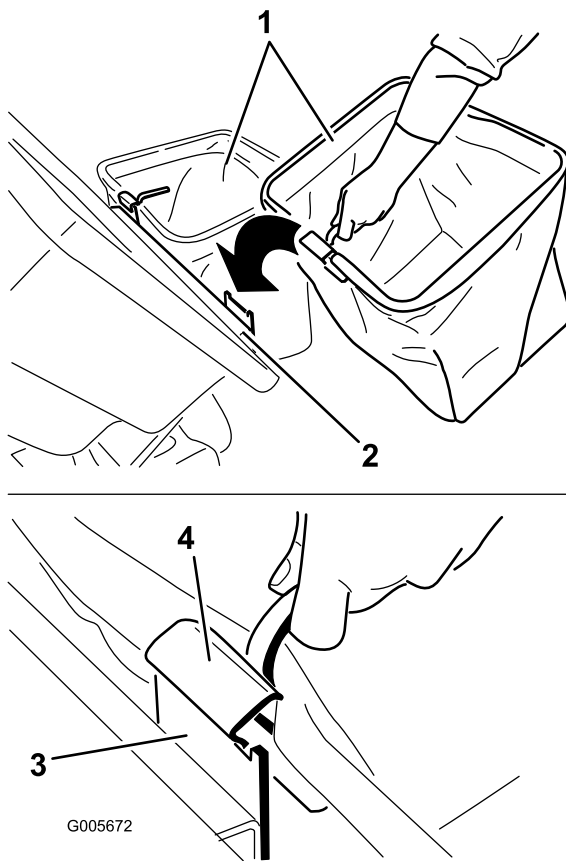

Figure 13
5. Install the bags by sliding the bag frame hooks onto the retaining brackets (Figure 13).